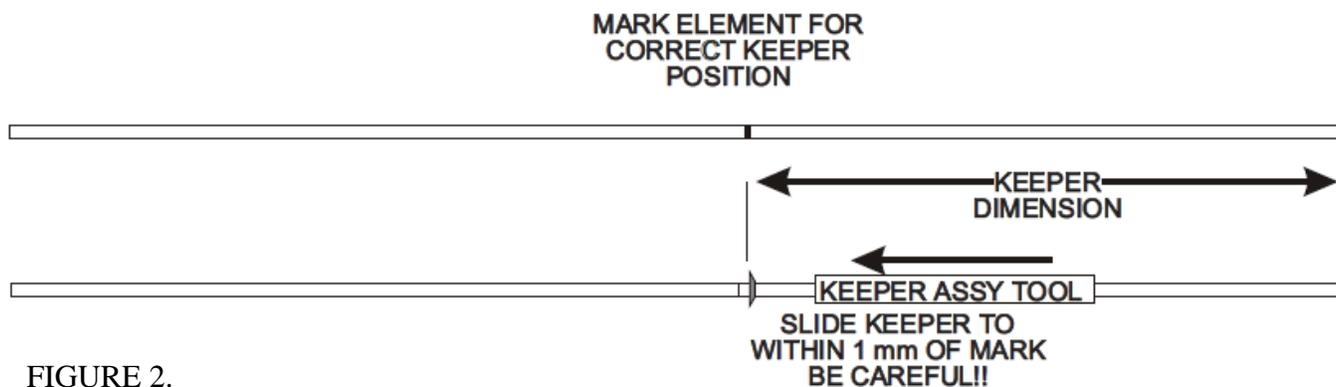

FIGURE 2.
4) The element bundle contains all of the elements needed for assembly. Take time to inventory each one and check off each dimension with Table 1. Some elements vary by 1 or 2mm in overall length, so extreme care in measuring is called for here. Arrange elements in order of descending size and mark each element with a scribe for proper location of the "keeper" (see Table 1 again and Figure 1). The reflector is the longest element, and each succeeding director is slightly shorter. DIR # 31 is the shortest. The keeper must be installed as shown in Figure 2; using the keeper installation tool supplied, slide the keeper to within a mm of the scribed line. Note that the keeper is a one-way device only. If you go past the scribed line, you must continue to the element end and start the process over. Place the first keeper on all elements.